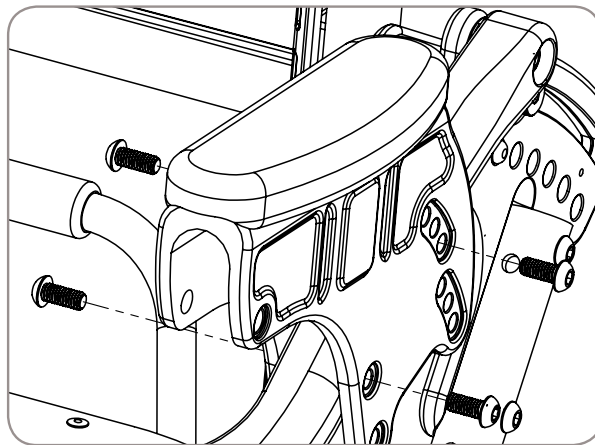

Figure 27
1. Remove button head bolts (4). 4mm hex wrench required. Reference Figure 27.